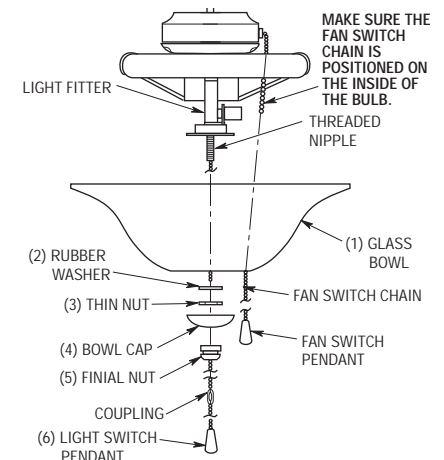

Figure 6
- Make sure the fan switch chain is positioned through the inside of the fluorescent bulb (Figure 6). Then remove the pendant and thread the switch chain through the hole in the glass bowl(1). Position the glass bowl over the threaded nipple and then secure by installing the rubber washer(2) and thin nut(3) finger tight. (Rubber washer and thin nut are supplied in parts bag.) Install the bowl cap(4) and finial nut(5) finger tight.
NOTE: Be sure the switch chain hole in the glass bowl(1) is positioned directly under the fan switch as shown in Figure 6.
- Install the fan switch pendant on the fan switch chain (Figure 6). Engage the coupling on the light pendant/chain with the light switch chain.